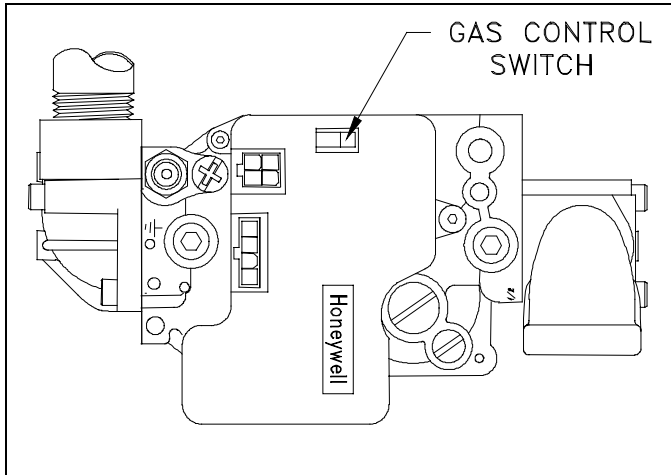

Figure 2. Furnace Gas Control.
6. Turn the switch on the furnace gas control to "OFF". See Figure 2.
7. Turn the switch on the furnace gas control to "OFF". See Figure 2.
8. Wait five (5) minutes to clear out any gas. Then smell for gas, including near the floor. If you smell gas, STOP! Follow above instructions: "What To Do If You Smell Gas." If you do not smell gas, go to the next step.